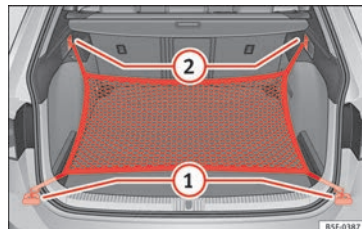

Fig. 182 In the luggage compartment: rings ① and hooks ② for securing the net bag (LEON ST model).
- Secure the short net hooks to the fastening rings » **Fig. 182 ①** » ⚠. The bag zip should be facing upwards.
- Secure the straps in the bag hooks **②**.